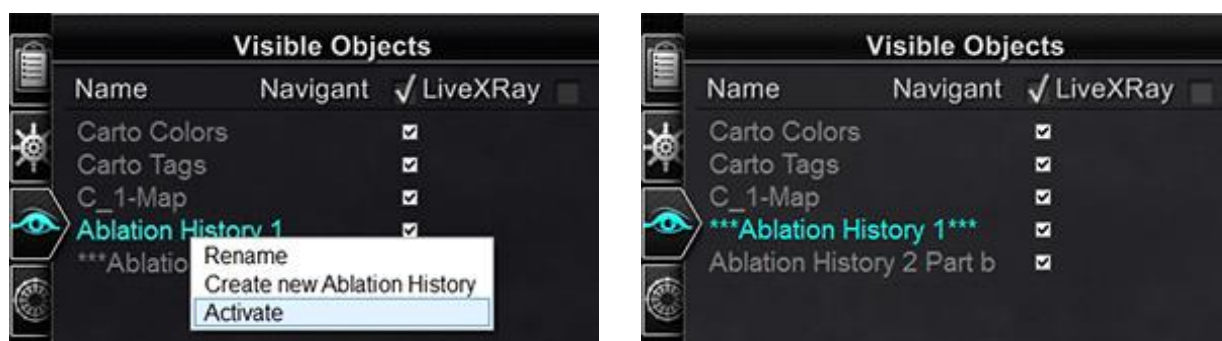

Figure 184. *Left:* “Activate” menu selection; *Right:* Result when “Ablation History 1” is activated
3. To activate an Ablation History after working with another history, right-click its name. A 3-item menu appears as shown in **Figure 184**, with the result shown on the right.